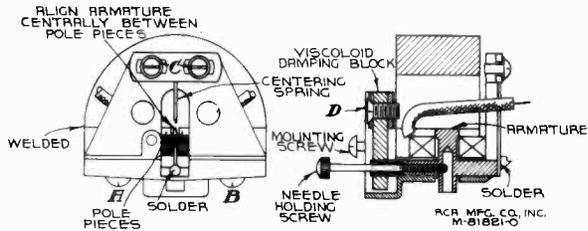

Figure 5—Details of Pickup (Model U-105)
**Centering Armature.**—Refer to figure 5 showing the pickup inner structure. The armature is shown in its proper relation to the magnet pole pieces, i. e., exactly centered. Whenever this centering adjustment has been disturbed it will be necessary to remove the pickup mechanism from the tone arm by removing the needle holding screw and the two mounting screws from the front of the tone arm, holding the pickup assembly to keep it from dropping. Unsolder the two leads from the lugs on the terminal board at the rear of the pickup. Insert a small rod or nail into the armature needle hole and replace the needle holding screw, tightening it to hold the rod securely. If the armature clamping screws A and B have not been disturbed, screws C should be loosened which will permit the armature to be moved from side to side, the rod acting as a lever to perform this operation. The proper adjustment is obtained when the armature is moved to the extreme position on each side (the movement being limited by the armature striking the pole pieces) and then brought to the mid position between these two extremes.